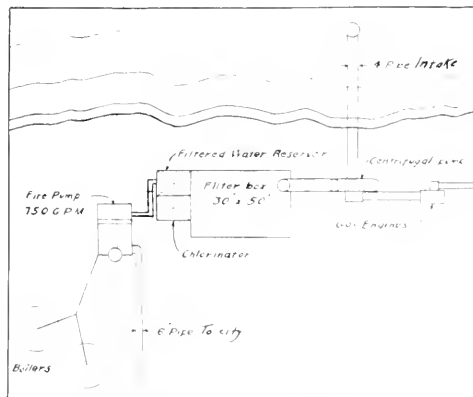

FIG. 3. PLAN OF A TYPICAL FILTRATION UNIT
The arrangement of a typical pumping plant as installed here is shown in Figure 3. The unit consists of (1) feeder pump and suction line, (2) filter, (3) chlorinator, (4) line pump, (5) power plant. The feeder pump is a 1" centrifugal pump with a